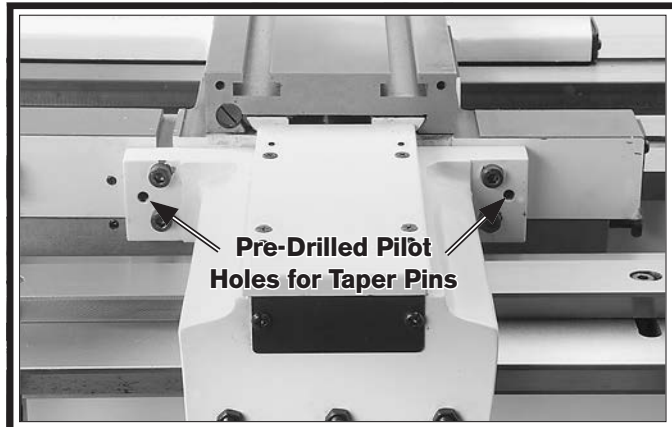

Figure 23. Taper pin pilot holes.
35. Drill two $\frac{19}{64}$ " holes into the saddle through the pilot holes in the attachment casting (see **Figure 23**).